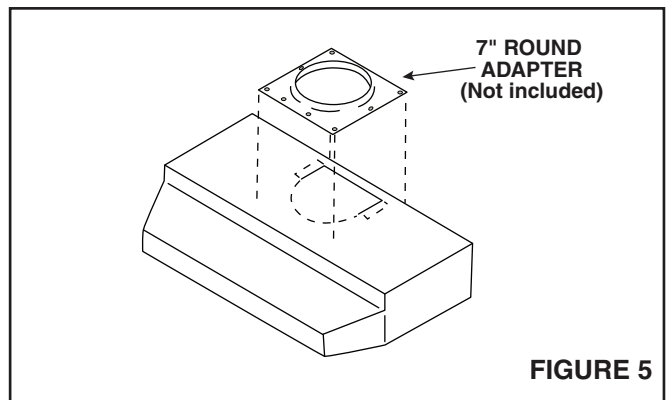

FIGURE 5
2. **For 7" round discharge installation, refer to FIGURE 5.** Secure 7" adapter (Model K4892000, sold separately) to the top of hood. Install 7" round damper (Model BP87, sold separately).